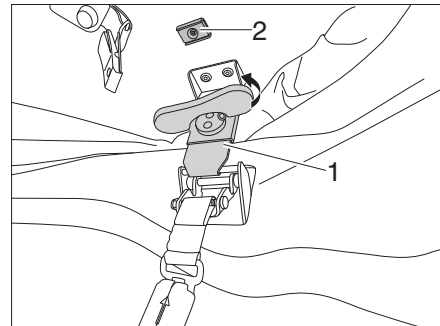
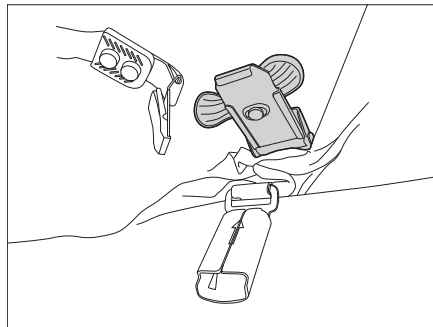

Fig. 10 Releasing the locking mechanisms
Fig. 11 Fastening the locking mechanism
- Set up the twist grips of the left- and right-hand locking mechanism (Fig. 10,1) and turn counter-clockwise until the locking mechanisms are loosened.
- Fold the twist grip further downward and attach the locking mechanism to the magnet (Fig. 10,2) (Fig. 11).